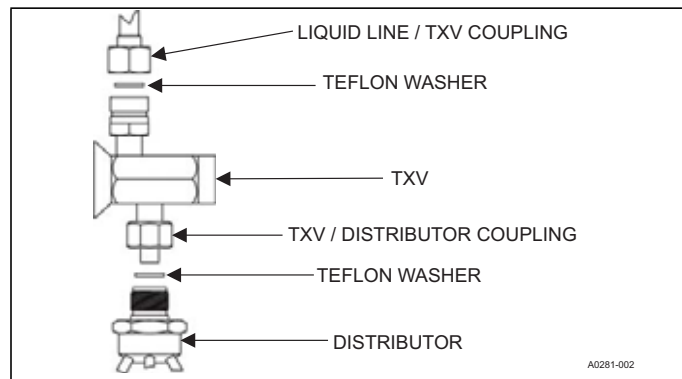

FIGURE 6: TXV Installation
- Install the thermal expansion valve to the distributor assembly with supplied fittings. Ensure Teflon washer is seated in distributor. Hand tighten and turn an additional 1/4 turn to seal. Do not over-tighten fittings. See Figure 6.